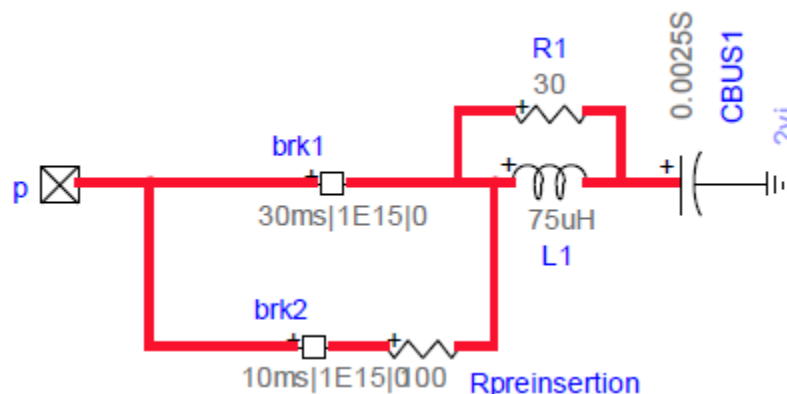
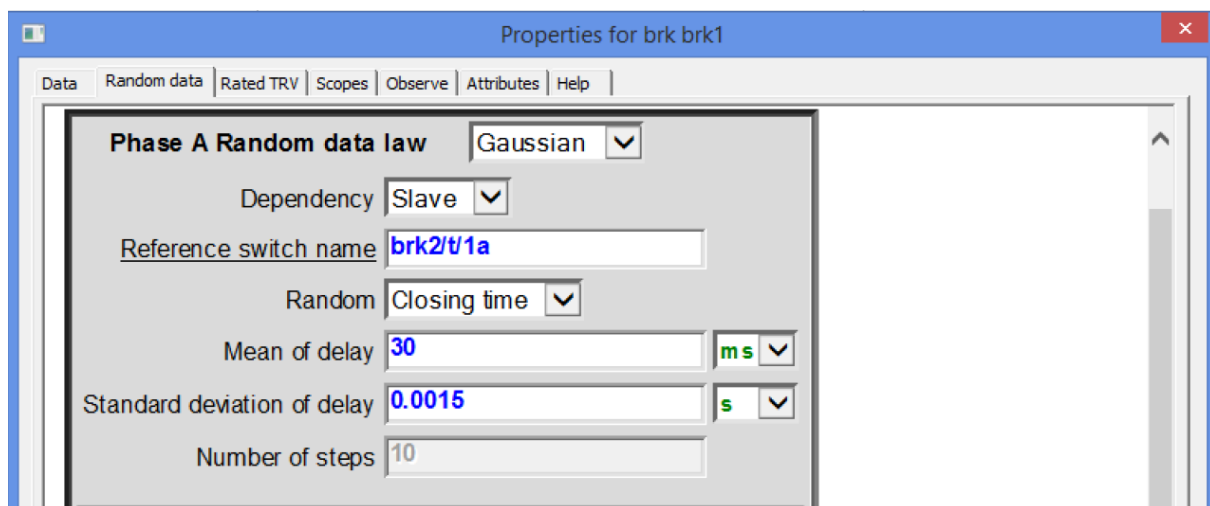

Figure 3-1: Master/Slave between breaker
Figure 3-2: Random data tab of brk1, slave of brk2
- **Dependency** is used to create random data dependency. If the breaker has slaves, in addition of the path of the device, '/t/1' has to be added. For example, in the design of the Figure 3-1, brk1 is the slave of brk2. Figure 3-2 shows how to set the dependency of the phase A of brk1 to be slave of the phase A of brk2.